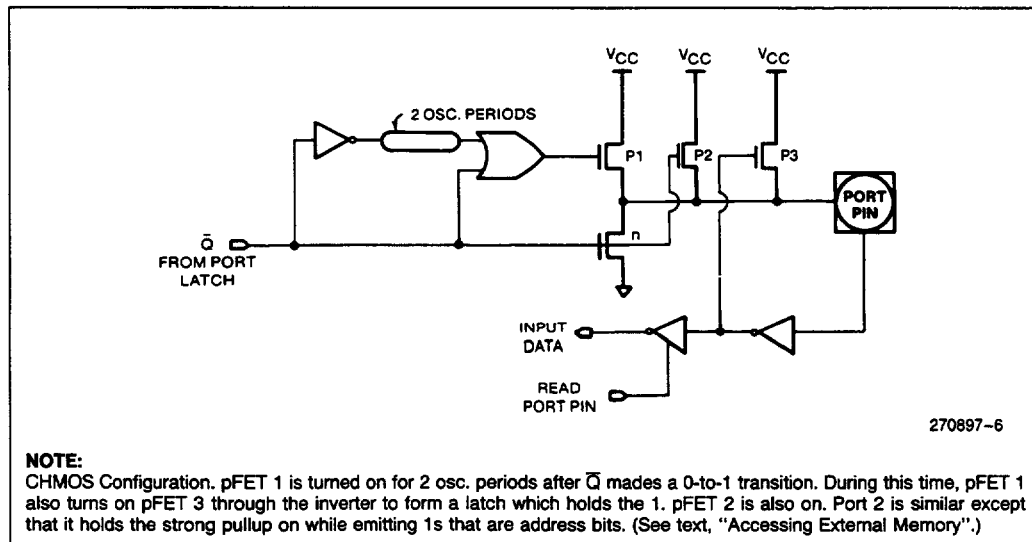

Figure 4. Ports 1, 3, 4, and 5 Internal Pullup Configuration
*See Figure 4 for details of the internal pullup.
If the change requires a 0-to-1 transition in Ports 1 through 5, an additional pullup is turned on during SIP1 and SIP2 of the cycle in which the transition occurs. This is done to increase the transition speed. The extra pullup can source about 100 times the current that the normal pullup can. The internal pullups are field-effect transistors, not linear resistors. The pullup arrangements are shown in Figure 4.